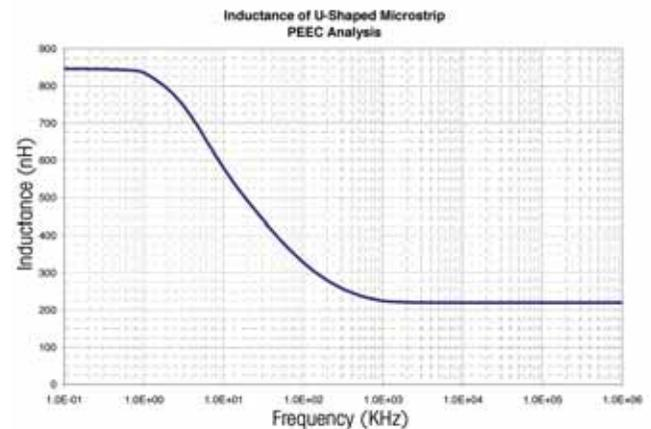

Figure 2. U-Shaped Microstrip Trace Inductance from PEEC Analysis
Figure 2 shows the results of the PEEC analysis from 100 Hz
The low frequency inductance in Figure 2 is approximately 845 nH. This is not too far from the rough calculation of 733 nH from equation (1). So this equation is reasonable as a rough calculation for this geometry and when the conductor coupling is low.
The high frequency inductance in Figure 2 is approximately 220 nH. You will recall that the per-unit-length approach with a simple calculator resulted in a high frequency inductance of 211 nH. Again, this per-unit-length approach appears to give a good approximation to the total loop inductance at high frequencies.